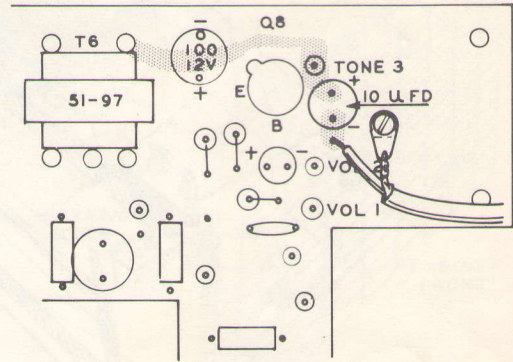

Figure 2
- () Referring to Figure 2, install a 10 μ f 10 V electrolytic capacitor. Be sure to connect the positive (+) lead of the capacitor as shown.